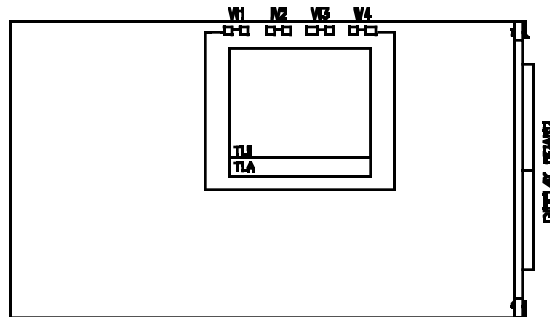

Figure 6-1. Main Board Power Jumpers (W1, W2, W3, W4)
2. Locate the solder jumpers W1, W2, and W3 (located near the edge of the main board alongside the transformer - refer to Figure 6-1).
Figure 6-1 shows the location of solder jumpers W1, W2, W3 and W4.